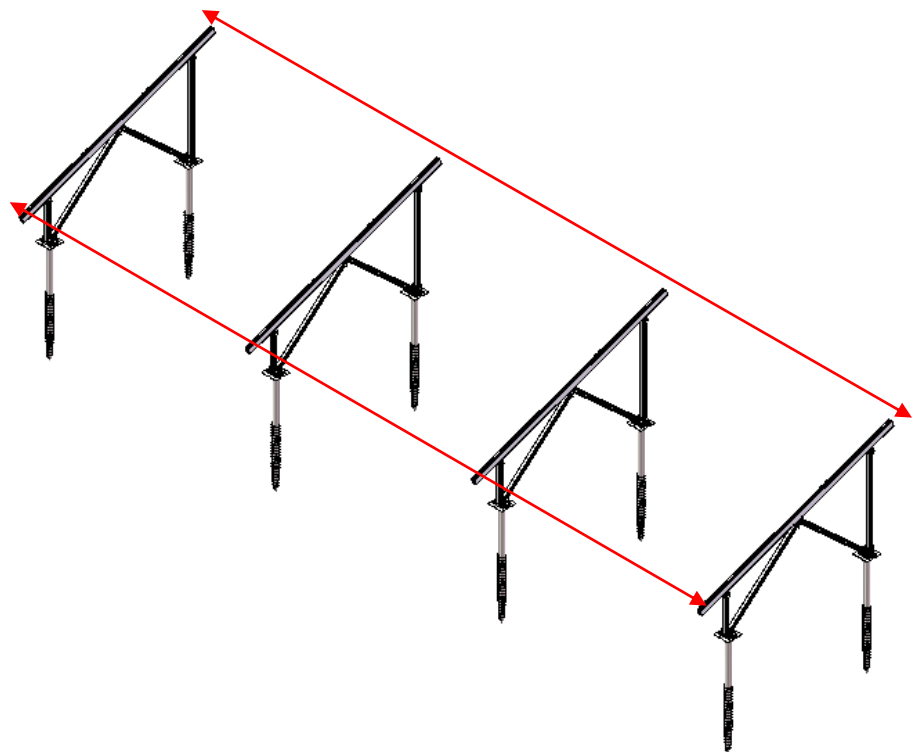

Figure 8
4.2.5 According to engineering drawings, repeat the above operations to install other Pre-assembled Supports. Ensure all the Two-Groove Square Girders of Pre-assembled Support are aligned and all Pre-assembled Support are parallel to each other. Unlock M12 bolts to adjust the position, if necessary, as shown in Figure 8.